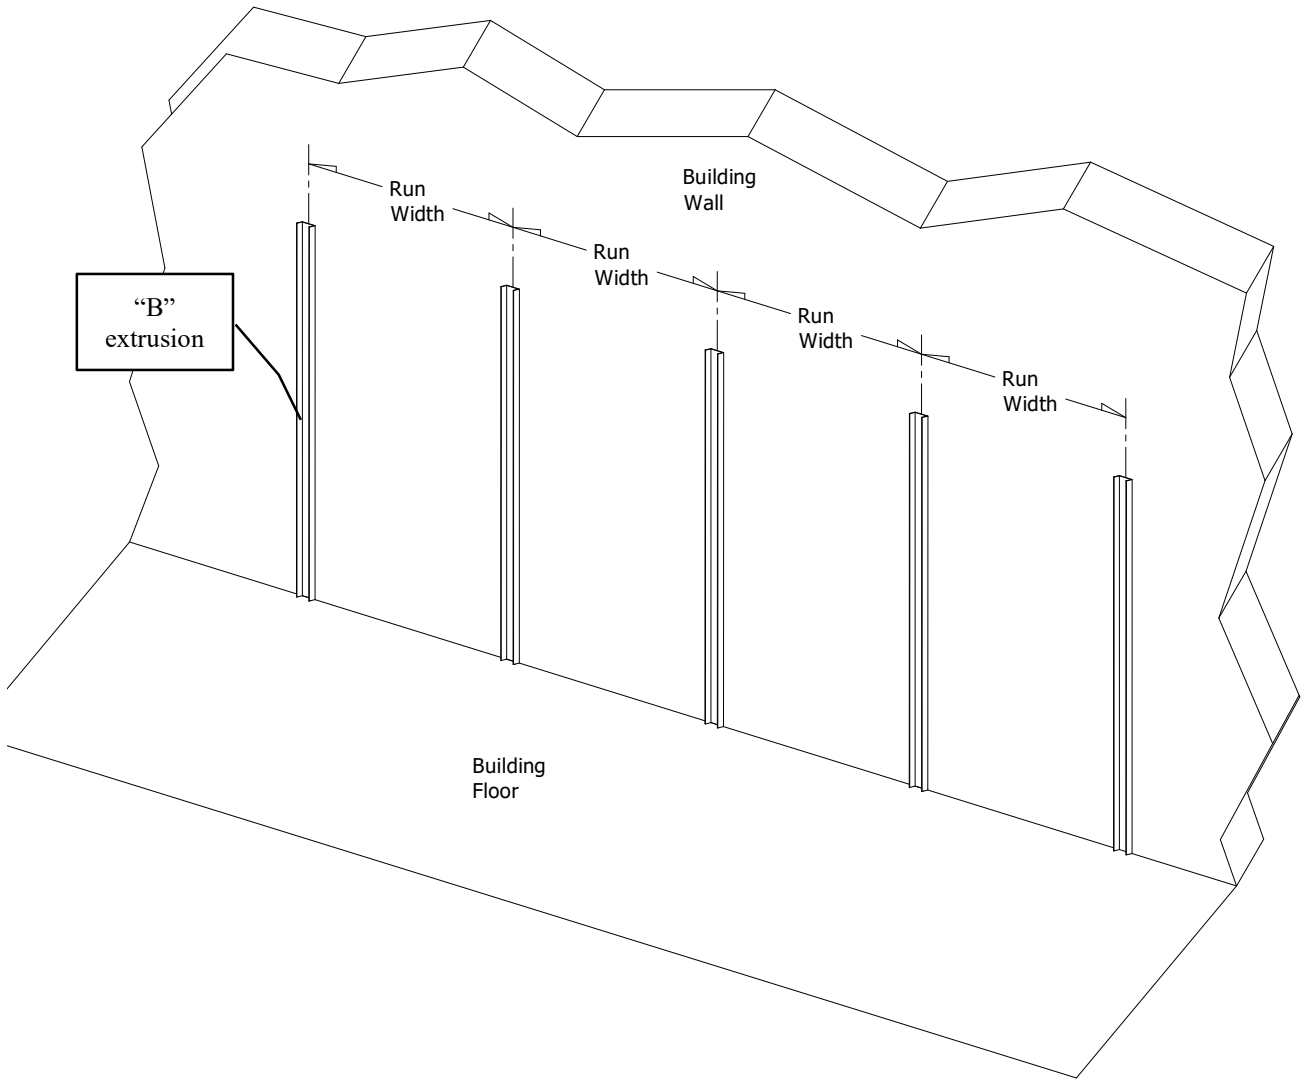

Figure 10
3. Fasten each appropriate “B” extrusion to the wall at the proper location using screws, either Tapcon anchors or #12 x 2” screws (Not Supplied) depending on the wall construction. See figure 10. You will need to pre drill the extrusion with a 1/4” drill bit for each screw. We recommend at least 3 screws or Tapcons per extrusion.